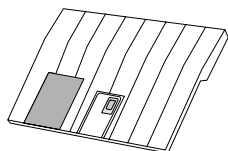

Figure 2: Paper separator
- For serial printers, do not install the paper separator, shown below, until you have finished setting up and configuring the printer (See Figure 2)